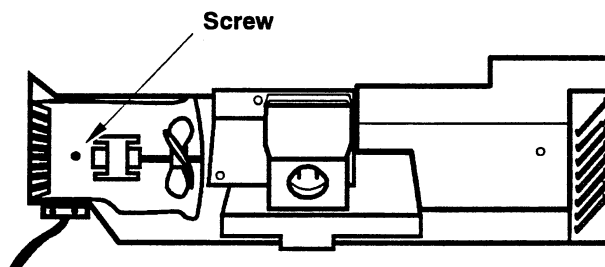

Figure 5-27. Lower Fan Housing Screw
4. Remove lower fan housing screw. Figure 5-27.